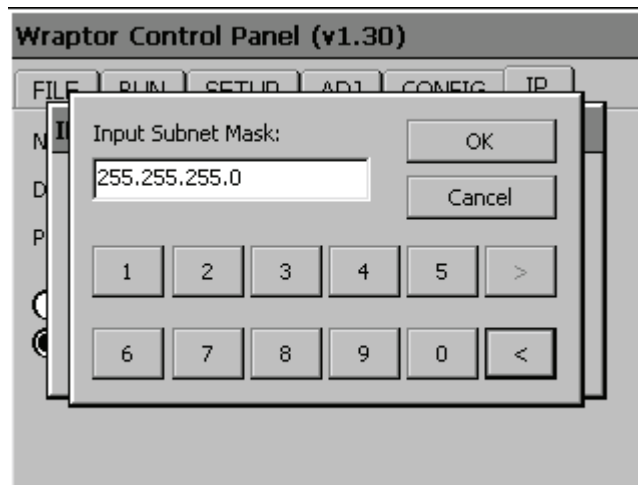

Figure 27. IP Number Keypad.
- ◆ Press the **Enter IP Number...** button to display the *IP Number* dialog (*Figure 27*) appears. Repeat the process to enter the IP addresses in this dialog.